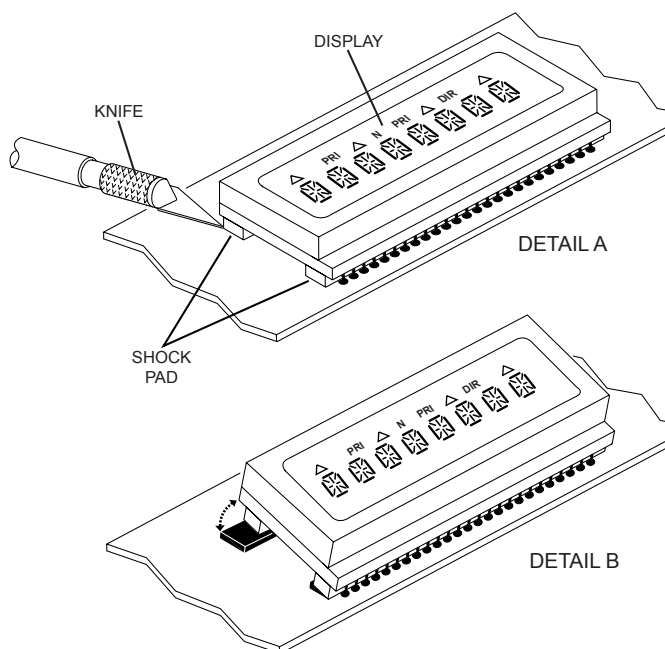

Figure 5-1. Replacing the Vacuum Fluorescent Display
1. Figure 5-1 below, Detail A, shows the removal procedure. Cut through the shock pad located opposite the side of the display with the soldered leads.
2. Wear finger protection to prevent cutting your fingers on the sharp edges of the glass. Pull up on the edge of the display (see Figure 5-1 above, Detail B), bending the solder leads. Then cut through the remaining shock pad.